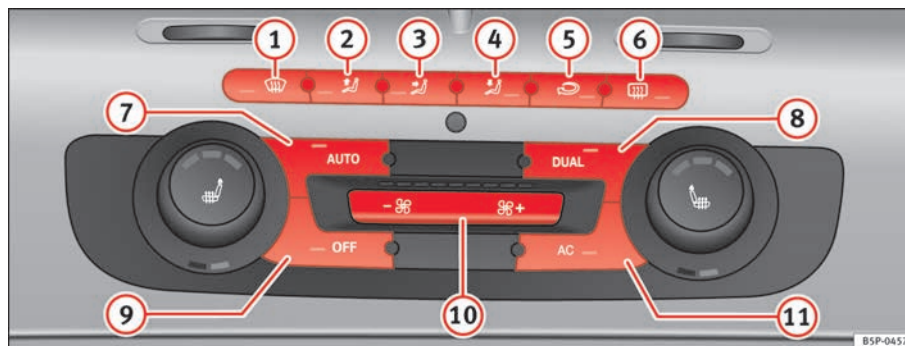

Fig. 114 On the instrument panel: 2C Climatron controls.
- To enter manual mode, press one of the buttons ⇒ fig. 114 (1) to (5) or press the air flow control (10). The selected function is shown on the radio or navigator display.
- Press the button  ⇒ page 151, fig. 114  to switch air recirculation mode on or off. It is switched on if the following symbol appears in the display .